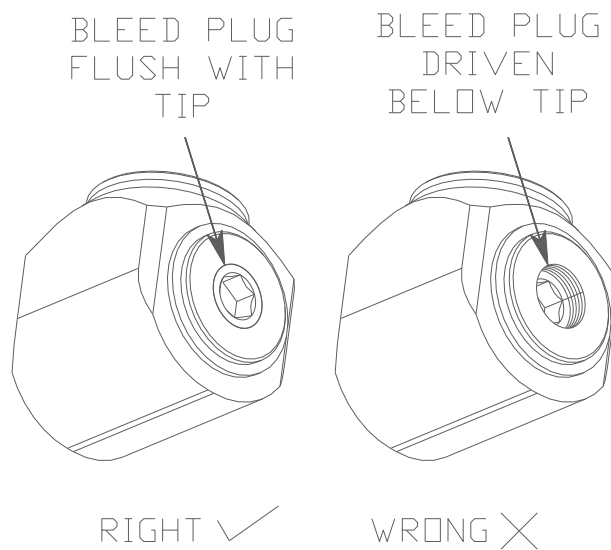

FIGURE 12 – PROPER BLEED PLUG INSTALLATION
- 7.10 Reinstall the c-squeezer bleed plug and tighten. Use Teflon tape on the pipe threads. DO NOT over-tighten this bleed plug. Do not drive the bleed plug substantially below flush, as shown in Figure 12.